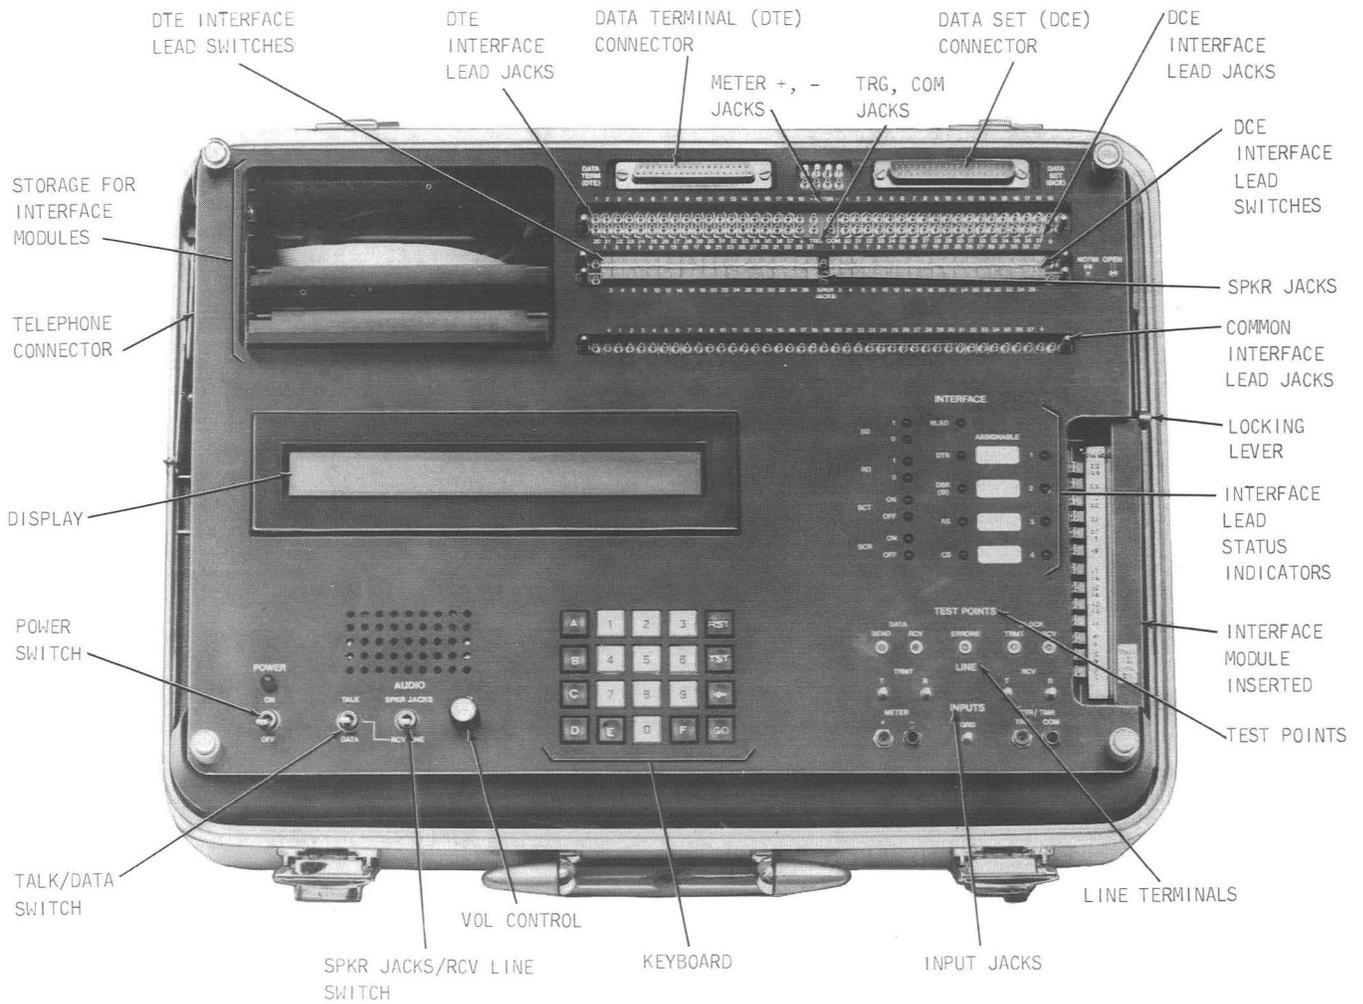

Fig. 1—921A Data Test Set—Front Panel
1.05 Input to the 921A DTS is made through a 20-button keyboard. A 32-character alphanumeric display provides operator prompting and diagnostic results. Refer to Fig. 1 for the location and nomenclature of connectors, switches, status indicators, input and output jacks, etc, that will be used in the course of testing DS 212AR.